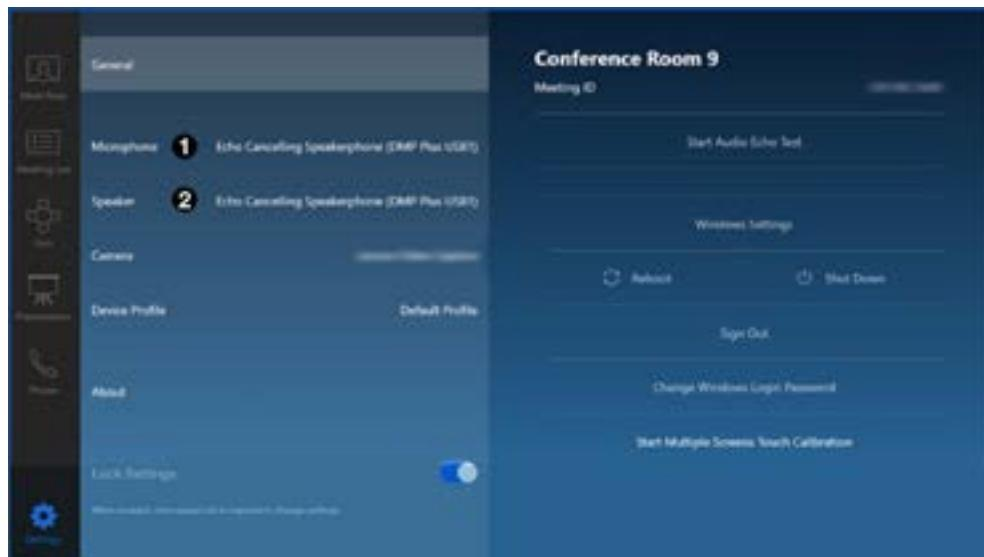

Figure 22. Zoom Rooms Settings Menu
2. Select the Extron DMP Plus (or configured USB Name in above steps) for each of the two parameters: **Microphone** (see figure 22, **1**) and **Speaker** (**2**).